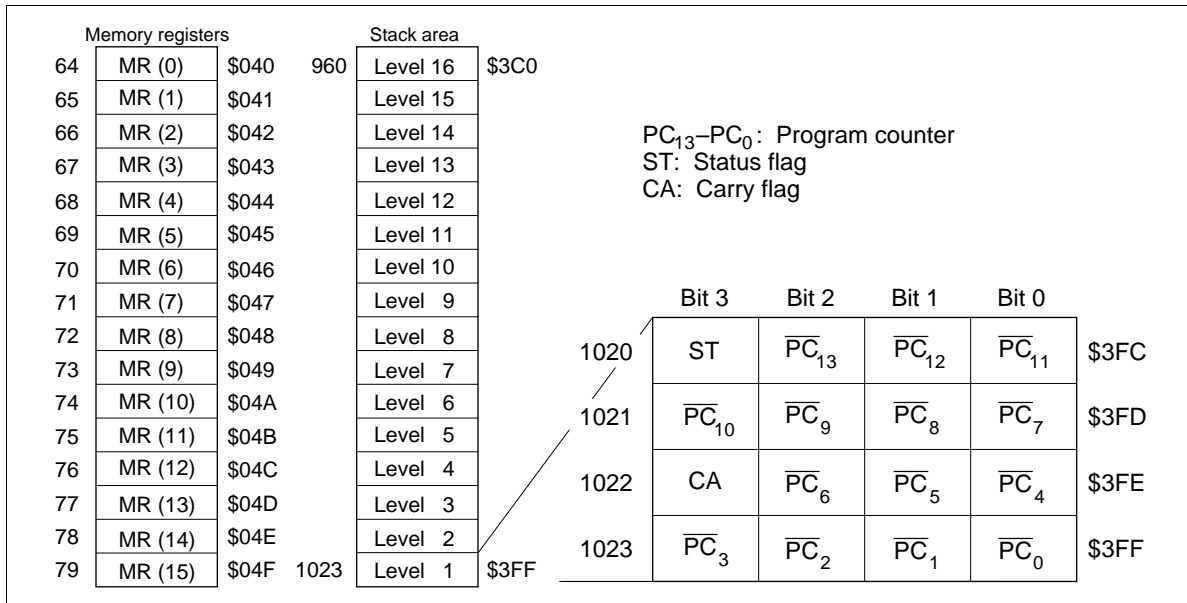

Figure 5 Configuration of Memory Registers and Stack Area, and Stack Position
Data Area (\$040–\$2CF, \$100–\$2CF; Bank 0, 1): The memory registers (MR), which consist of 16 digits (\$040–\$04F), can be accessed by the LAMR and XMRA instructions (see figure 5). In the 464 digits from \$100–\$2CF, a bank can be selected by the V register (see section on V register).
Stack Area (\$3C0–\$3FF): Used for saving the contents of the program counter (PC), status flag (ST), and carry flag (CA) at subroutine call (CAL or CALL instruction) and interrupt processing. This area can be used as a 16-level nesting subroutine stack in which one level requires four digits. The data to be saved and the save conditions are shown in figure 5.